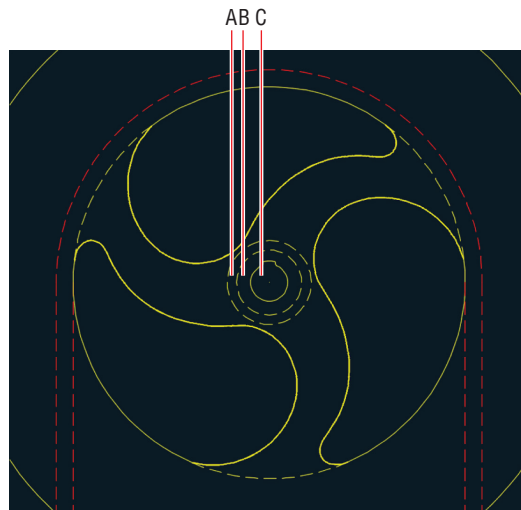

FIGURE 8.2 Picking a point to detect a boundary
2. Click the Hatch tool in the Draw panel on the ribbon's Home tab. Click point A in Figure 8.2.
8. Type H (for Hatch) and press Enter. Click point B in Figure 8.2.
11. Press the spacebar to repeat the last command. Click point C in Figure 8.2.